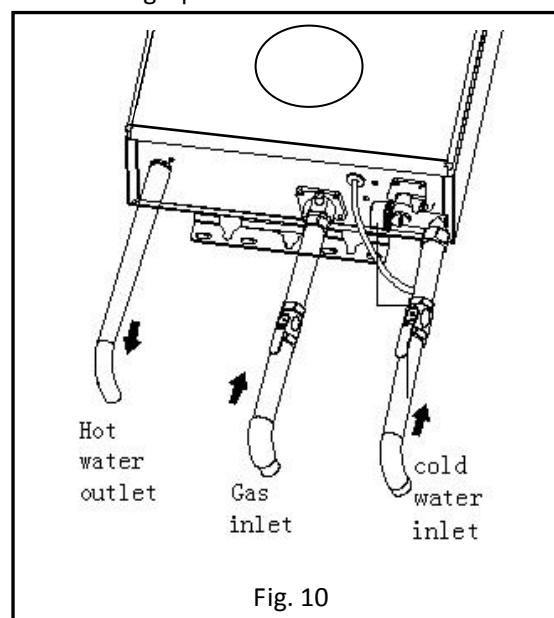

Fig. 10
2. Installation of water and gas pipes (Fig. 10)
(1) When facing the heater, the cold water inlet is on your right and the hot water outlet is on your left. Although water piping throughout your structure may be other than copper, we recommend that copper piping be used for at least 0.92 m before and after the heater (follow local codes). Keep water inlet pipe to no less than 1/2" diameter to allow the full flow capacity.
(2) Remember that water pressure must be sufficient to activate the heater when drawing hot water from the top floor. If the hot and cold connections to the heater are reversed, the heater will not function. 1/2"Copper or brass fittings work best when connected to the connectors. The flexible type connectors will make installation easier and seals to the water valve by means of a union connection with a washer type gasket at the joint. No pipe dope or thread tape is to be used at this joint. Be certain there are no loose particles or dirt in the piping. (Fig. 10)
(3) Water pressure must be sufficient to activate the water heater, the maximum pressure for the appliance is 10bar, even with the effects of water dilation, the water pressure in the appliance shall not exceed this value.